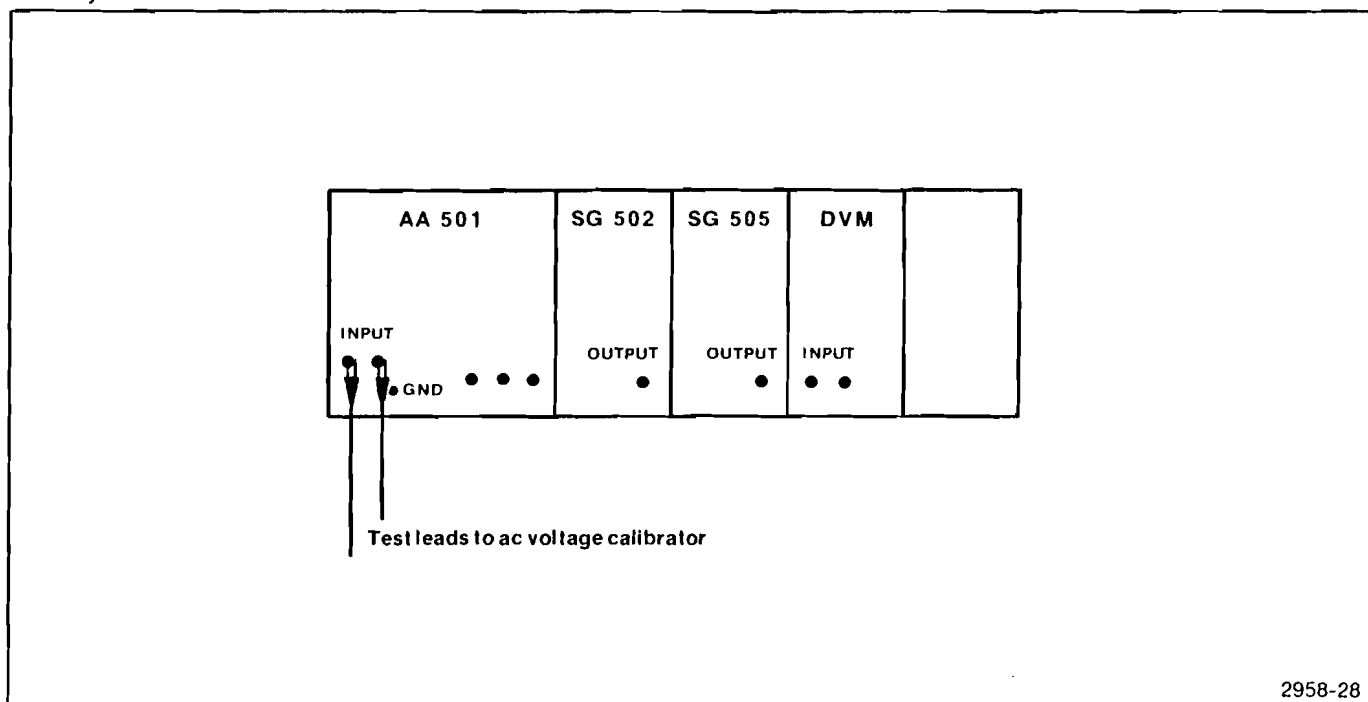

Fig. 4-15. Adjustment test setup for steps 3, 4, 5, 6, and 7.
- d. Apply a 1 kHz sinewave of exactly 1.800 V rms from the ac calibrator to the INPUT terminals. See Fig. 4-15.
c. Apply a 1.00 V 50 kHz sinewave from the ac voltage calibrator to the INPUT terminals. See Fig. 4-15.
e. Apply a 0.7746 V rms 1 kHz signal from the ac calibrator to the INPUT terminals. See Fig. 4-15.
b. Apply a 0.7746 V rms 1 kHz signal from the ac calibrator to the FRONT PANEL INPUT terminals. See Fig. 4-15.
b. Make certain the output of the ac calibrator is 0.7746 V rms at 1 kHz. See Fig. 4-15.